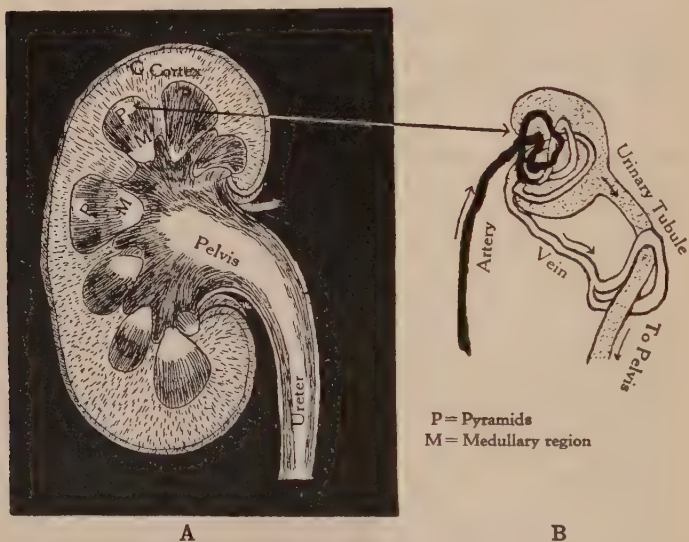

FIGURE 291.—THE STRUCTURE OF THE KIDNEYS.
tion of much carbon dioxide and water occurs. (2) The *skin*, rich in capillaries, is a general waste station. Slight traces of carbon dioxide, great quantities of water and salt, and traces of nitrogenous materials are eliminated through its pores. The amount eliminated depends upon the body temperature, the surrounding air, and the kind of work the body is doing. With these surface wastes goes the excess heat of the body, and we are cooled by the evaporation of perspiration. (3) The third general waste station consists of the *kidneys*, where urea, uric acid, products of putrefaction from the intestines, and water are extracted from the blood, formed into *urine* (ū'rĭn), accumulated in the bladder, and given off from the body at intervals through the *urethra* (û-rē'thrá) (Fig. 291).